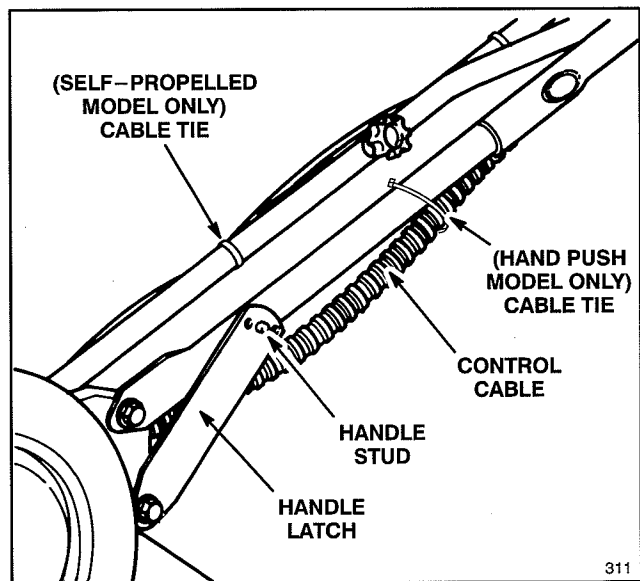

Figure 2
INSTALL HANDLE (Fig. 2)
2. The left handle knob is shipped from the factory on the outside of the handle (Fig. 1). Remove the left knob and bolt. Reinstall knob and bolt on inside of handle (Fig. 2). Both handle knobs should be positioned on the inside of the handles. Tighten handle knobs.
3. Move handle latches slightly outward so they will not be in the way when pivoting the handle backward into the operating position (Fig. 2).
4. Pivot handle backward. Move handle latches inward while snapping handle stud into center hole of handle latch (Fig. 2). If a handle latch does not fit tightly against the handle tube, remove latch from handle stud, bend the latch inward, and reattach to handle stud. Repeat as necessary to ensure a tight fit between latch and handle. Make sure handle knobs are securely tightened.
Note: If handle height is not satisfactory, adjust by placing handle stud (Fig. 2) into a different hole. Tighten handle knobs.
5. Ensure control cables (Fig. 2) are to the rear and inside of handles. Secure cables to handle with cable ties (Fig. 2).